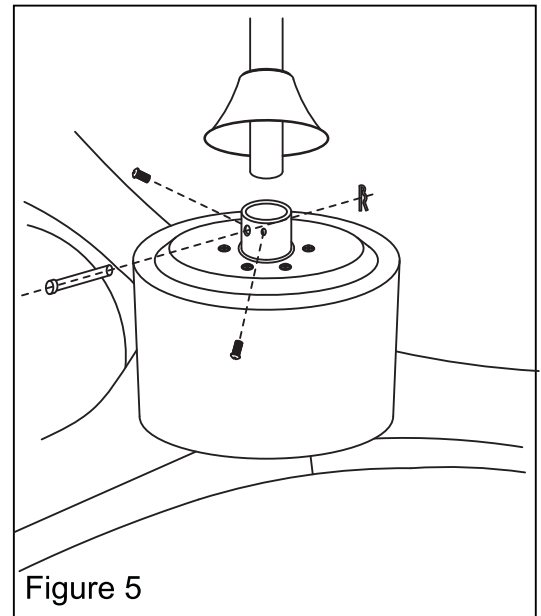

Figure 5
5. Loosen two set screws on the downrod support and then place the downrod into the downrod support.(Figure 5). Thread the electrical wires and the earth wire through the downrod. Align the Clevis Pin holes in the Downrod with the holes in the Downrod Support. Be sure to push the straight leg of the Hairpin Clip through the hole near the end of the Clevis Pin until the curved portion of the Hairpin snaps around the Clevis Pin. Finally, re-tighten the two set screws.